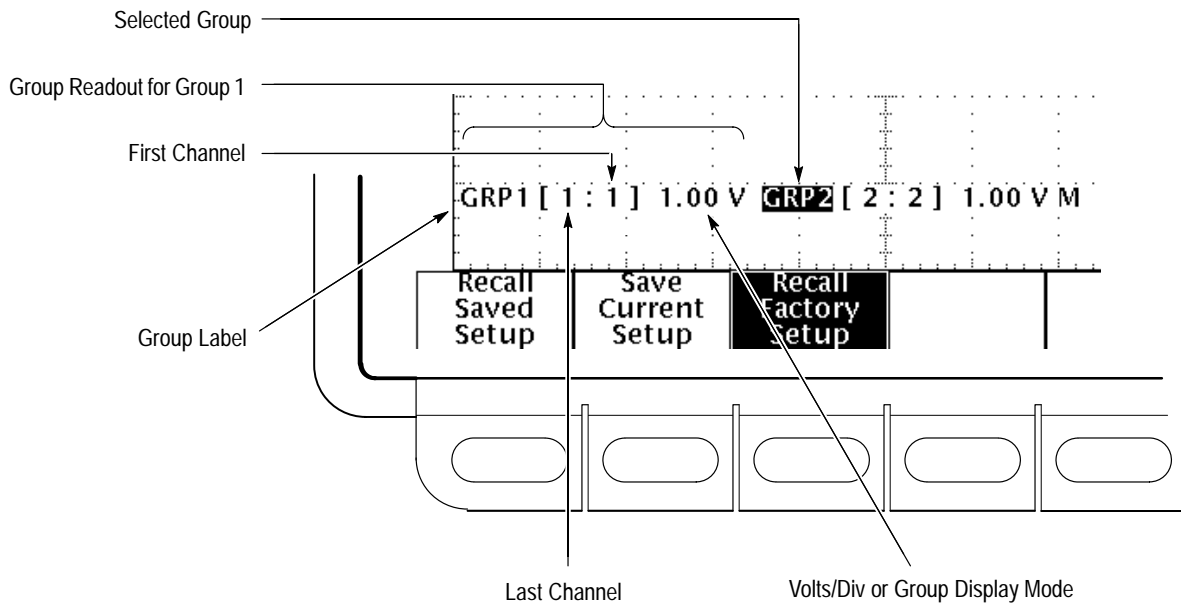

Figure 1-9: Group Readouts
- The group readout for each group indicates *single* channel groups by displaying the channel it contains as the first and last channel. (See Figure 1-9.)
3. Turn the vertical **POSITION** knob first one direction, and then the other. Observe the change in the displayed waveform, and note the group indicator at the left side of the graticule moves with the group. (Also note the group indicator of the *selected* group appears in reverse video. (See Figure 1-9.) Then return the waveform to the center of the graticule.